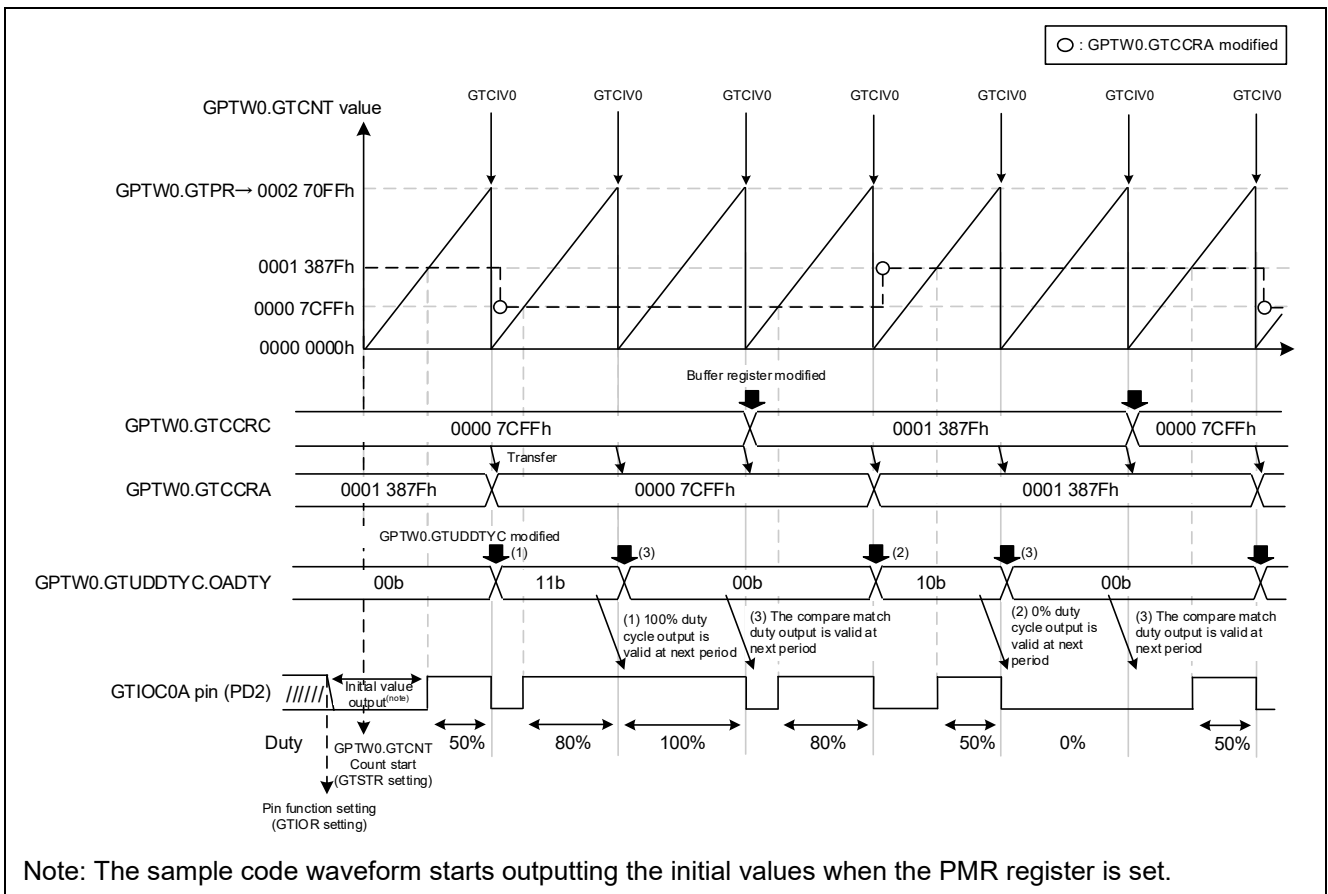

Figure 4.81 Sample Code Operations
- Refer to Figure 4.81 for details on duty change timing
The sample code operations are shown in Figure 4.81. The basic operation is to make changes the settings of the duty cycle with each period by modifying the value of buffer register GTCCRC at the GTCNT counter overflow interrupt (GTCIV0) and transferring the value of GTCCRC to the GRCCRA when a GTCNT counter overflow occurs.